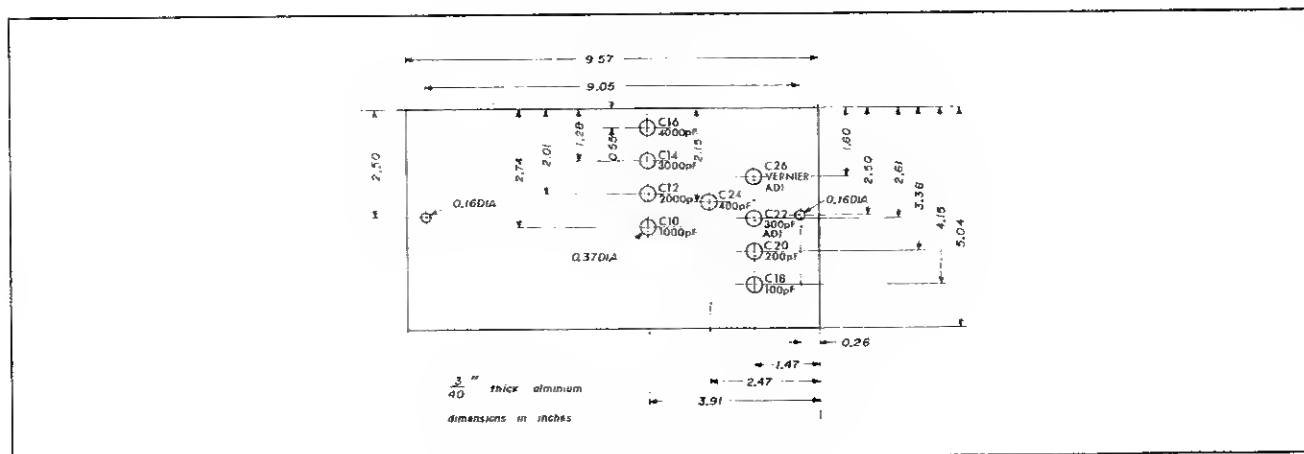

Figure 4-2 Testing Plate
4-11. When the adjustment of the variable capacitor is necessary, the testing plate (Figure 4-2) should be installed according to the following steps, and an adjusting screw driver with long insulator rod should be used. The Capacitance Bridge reading while adjustment is being made should be equal to the reading after the adjustment is completed.
- c. Install the testing plate (Figure 4-2) in place of the inside cover. Fasten it with the two screws taken out in step b.